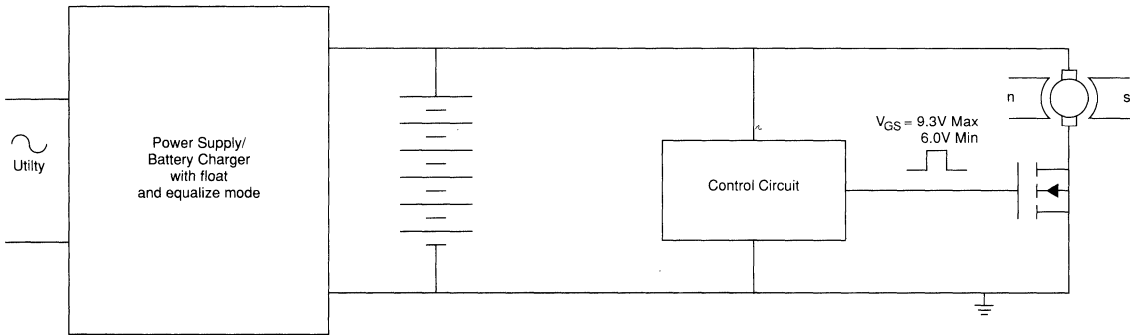

Figure 4. Motor of a Fluid Injection Pump
- Medical equipment with battery back up is another popular application. Figure 4 shows the motor of a fluid injection pump powered by the utility supply and backed by a NiCad battery. The $V_{GS} = 6$ volts condition demands carefully attention, because the $R_{DS(ON)}$ has to be low in order to ensure a low drain to source voltage drop. A large voltage drop can A) affect motor performance, and B) cause high I^2R losses, reducing system efficiency and battery back-up time.